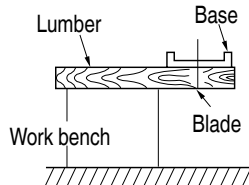

Fig. 15
10. Prepare a work bench (Fig. 15)